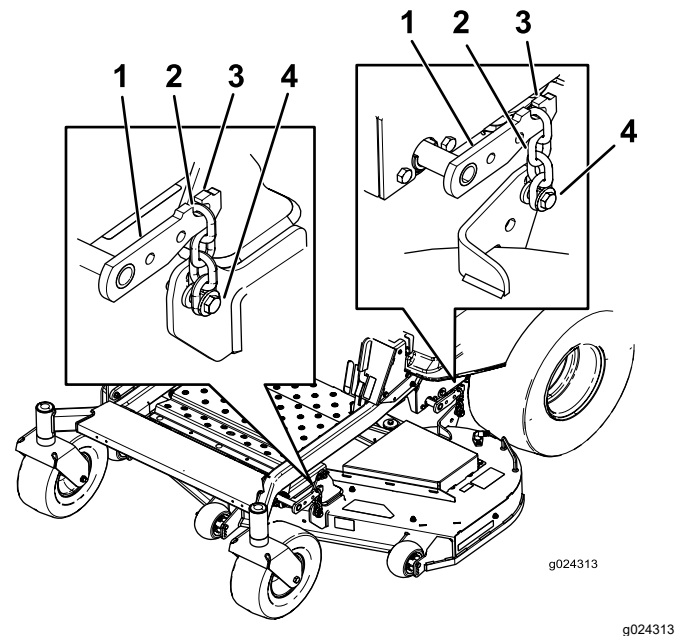

Figure 78
8. Remove the chains from the hooks on the deck-lift arms (Figure 78).
6. Lift the rear of the mower deck and attach the chains to the rear lift arms (Figure 78).
7. Attach the front chains to the front lift arms (Figure 78).